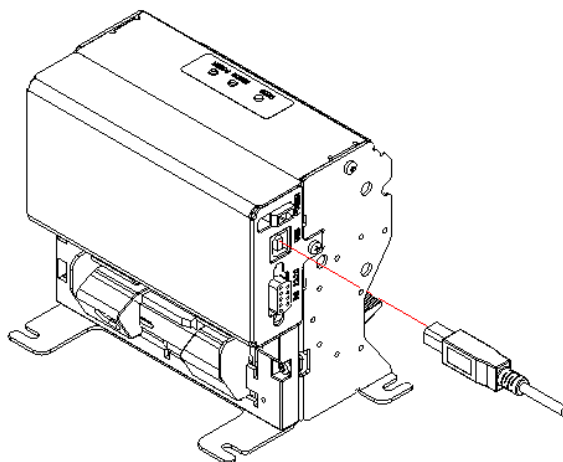

Figure 4.6.1 Connecting USB cable
- 2) Connect the USB cable into the relevant interface of printer, (see Figure 4.6.1);